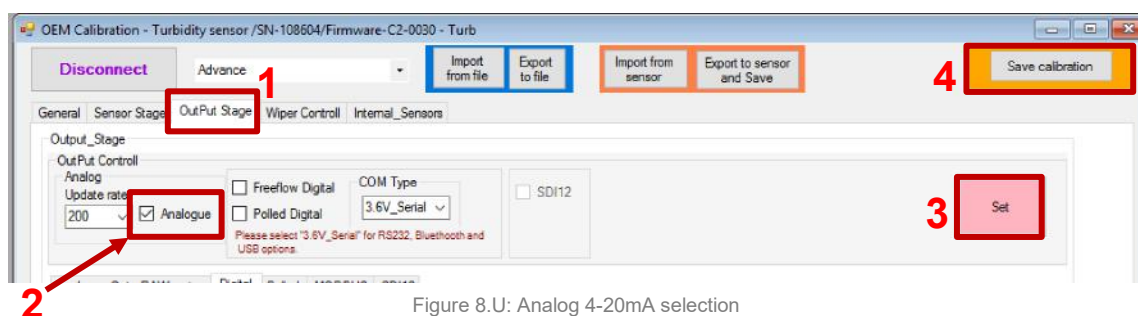

Figure 8.U: Analog 4-20mA selection
- Select “OutPut Stage” option (Figure 8.U: #1).